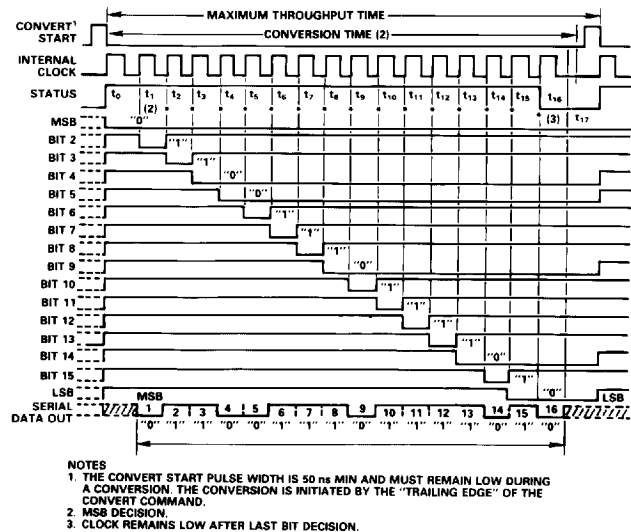

Figure 7. Timing Diagram (Binary Code 0110011101111010)
The timing diagram is shown in Figure 7. Receipt of a CONVERT START signal sets the STATUS flag, indicating conversion in progress. This, in turn, removes the inhibit applied to the gated clock, permitting it to run through 17 cycles. All the SAR parallel bits, STATUS flip-flops, and the gated clock inhibit signal are initialized on the trailing edge of the CONVERT START signal. At time  $t_0$ ,  $B_1$  is reset and  $B_2 - B_{16}$  are set unconditionally. At  $t_1$  the Bit 1 decision is made (keep) and Bit 2 is reset unconditionally. This sequence continues until the Bit 16 (LSB) decision (keep) is made at  $t_{16}$ . The STATUS flag is reset, indicating that the conversion is complete and that the parallel output data is valid. Resetting the STATUS flag restores the gated clock inhibit signal, forcing the clock output to the low Logic "0" state. Note that the clock remains low until the next conversion.
**Short Cycle Input:** A Short Cycle Input, Pin 32, permits the timing cycle shown in Figure 7 to be terminated after any number of desired bits has been converted, permitting somewhat shorter conversion times in applications not requiring full 16-bit resolution. When 10-bit resolution is desired, Pin 32 is connected to Bit 11 output Pin 11. The conversion cycle then terminates and the STATUS flag resets after the Bit 10 decision (timing diagram of Figure 7). Short cycle connections and associated 8-, 10-, 12-, 13-, 14-, and 15-bit conversion times are summarized in Table I, for a 1.6 MHz clock (AD1377) or 933 kHz (AD1376).